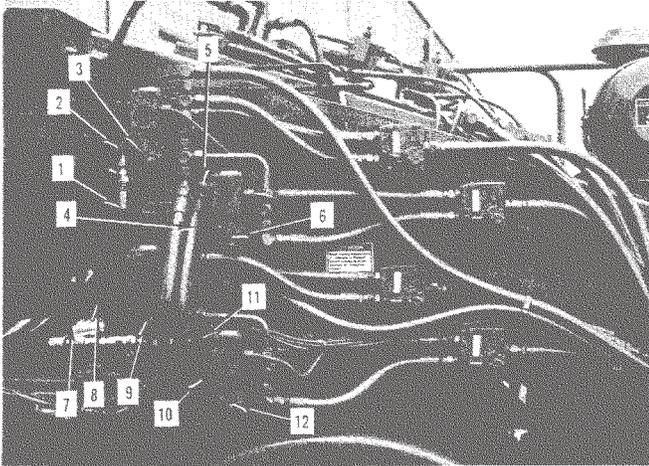

Figure 23. Side Valve Plate
## 1. Left Hopper Spread Roll Relief Valve (Figure 23)
- a) With engine off, remove hose (1) and install a 3000 psi gage with necessary adapters to hook to  $\frac{3}{4}$ " quick coupler (Ref. 2, Figure 23).
- c) Use the manual override to actuate the valve (Ref. 3, Figure 23).
## 2. Right Hopper Spread Roll Relief Valve (Figure 23)
- a) With engine off, remove hose (4) and install a 3000 psi gage with necessary adapters to hook to  $\frac{3}{4}$ " male JIC (Ref. 5, Figure 23).
- c) Use the manual override to actuate the valve (Ref. 6, Figure 23).
## 3. Left Auger Relief Valve (Figure 23)
- a) With the engine off, disconnect hose (7) at quick coupler and install a 3000 psi gage with necessary adapters to hook to  $\frac{3}{4}$ " quick coupler (Ref. 8, Figure 23).
- c) Use the manual override to activate the valve (Ref. 9, Figure 23).
## 4. Right Auger Relief Valve (Figure 23)
- a) With the engine off, disconnect hose (10) at quick coupler and install a 3000 psi gage with necessary adapters to hook to  $\frac{3}{4}$ " male JIC (Ref. 11, Figure 23).
- c) Use the manual override to activate the valve (Ref. 12, Figure 23).